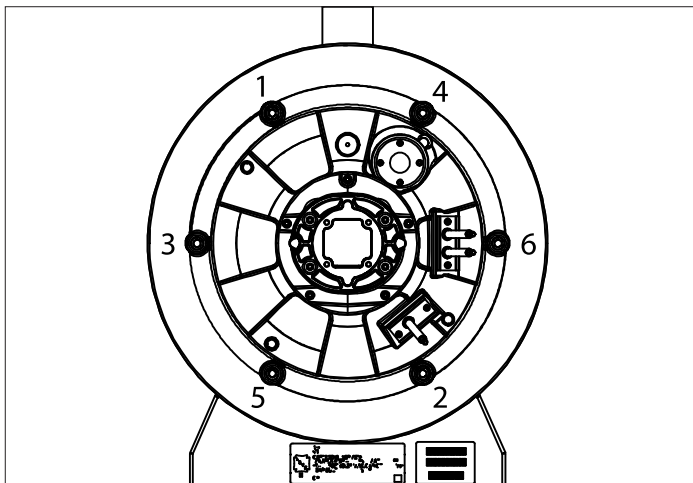

Figure 63 - Heat Exchanger Detail - Burner Door Torque Sequence
- Reinstall and tighten the bolts to the burner plate using staggered tightening sequence. See Figure 63 and Table 37.